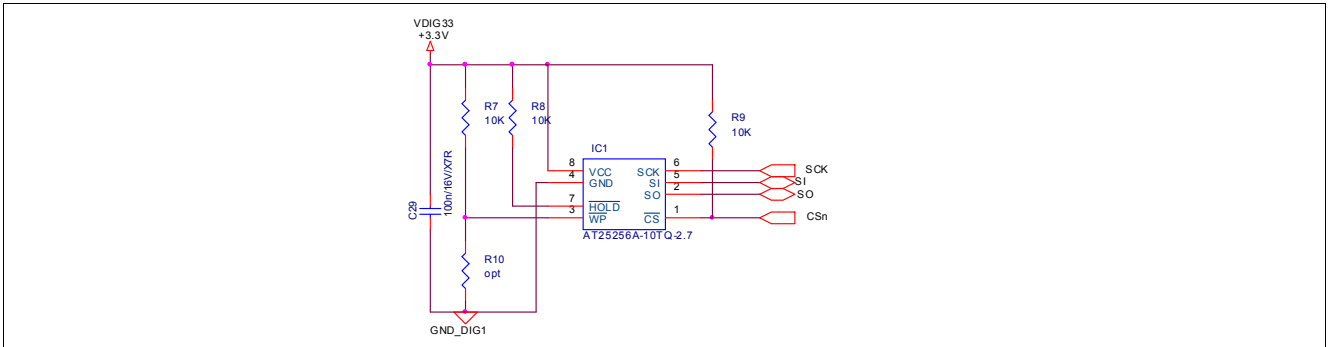

Figure 68 EEPROM
- EEPROM (Figure 68): 256kB Electrically-Erasable Programmable Read-Only Memory optimized for use in automotive applications where low-power and low-voltage operations are essential (for more details refer to AT25256A-10TQ-2.7 datasheet). The communication with the microcontroller is done through SSC0 interface (high-speed synchronous serial interface, SPI-compatible)